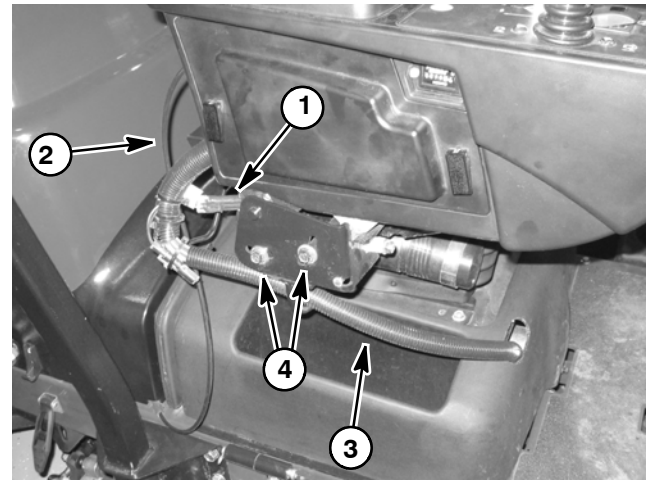

Figure 13
3. Disconnect seat switch electrical connector from wire harness (Fig. 13).
4. Remove two (2) flange head screws and flat washers that secure control arm assembly to seat base (Figs. 13 and 14).
2. Secure seat and seat base to seat adjusters with four (4) flat washers and socket head screws.
3. Make sure that two (2) bushings are positioned in control arm. Carefully slide control arm assembly onto seat base post. Secure control arm assembly to seat base with two (2) flange head screws and flat washers (Figs. 13 and 14).
4. Connect seat switch electrical connector to wire harness (Fig. 13).